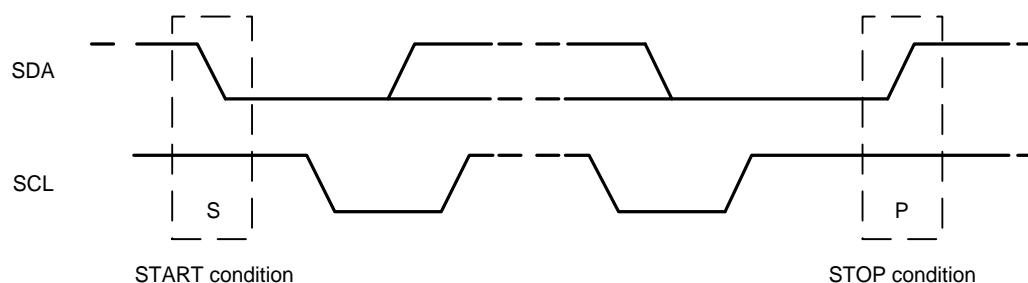

Figure 11. START and STOP Conditions
Communication on the I²C bus starts when the master puts the START condition (S) on the bus, which is defined as a HIGH-to-LOW transition of the SDA line while SCL line is HIGH (see figure below). The bus is considered to be busy until the master puts a STOP condition (P) on the bus, which is defined as a LOW to HIGH transition on the SDA line while SCL is HIGH (see Figure 11).